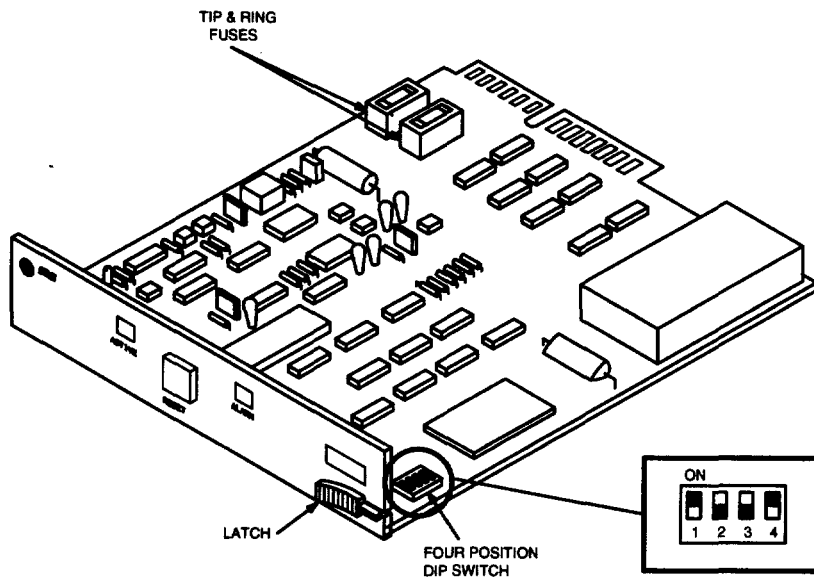

Figure 5. Remote Record Concentrator ALD4 Circuit Pack
3.05 The ALD4 has two fuses in a series between the telephone network (Tip and Ring) and the LIC on the printed wiring circuit pack (see Figure 5). The fuses protect the ALD4 circuitry against lightning induced transients and power cross. The replacement fuses are BUSSMAN* MDQ - 1/2 amp.
3.06 The ALD4 has a four-position DIP switch that is preset at the factory (see Figure 5). When the ALD4 is received, the DIP switch setting should match the Enable Fuse Check configuration in Table D. If it does not, change the settings to match the configuration in Figure 5. There may be an occasion when the configuration may be altered. This is discussed in Section 12, "Trouble Analysis." Table E is a listing of the ALD4 DIP switch representations.